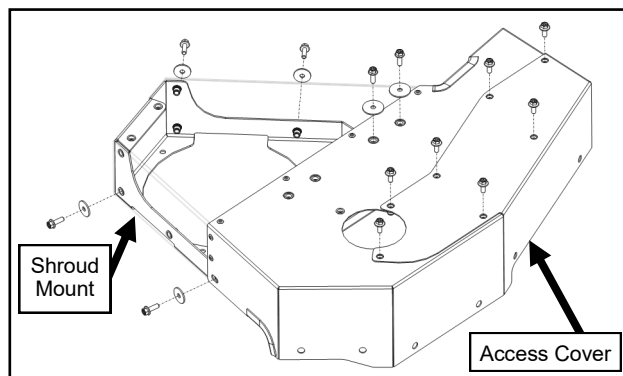

Fig. 2.13 (Shroud Assembly)
- 2.13** Locate the shroud assembly in the large hardware box. Remove and set aside the (7) fasteners retaining the access cover to the shroud assembly. Next, remove the hardware fastening the mesh portion of the shroud assembly along with hardware securing the top to the shroud mount. See Figure 2.13.